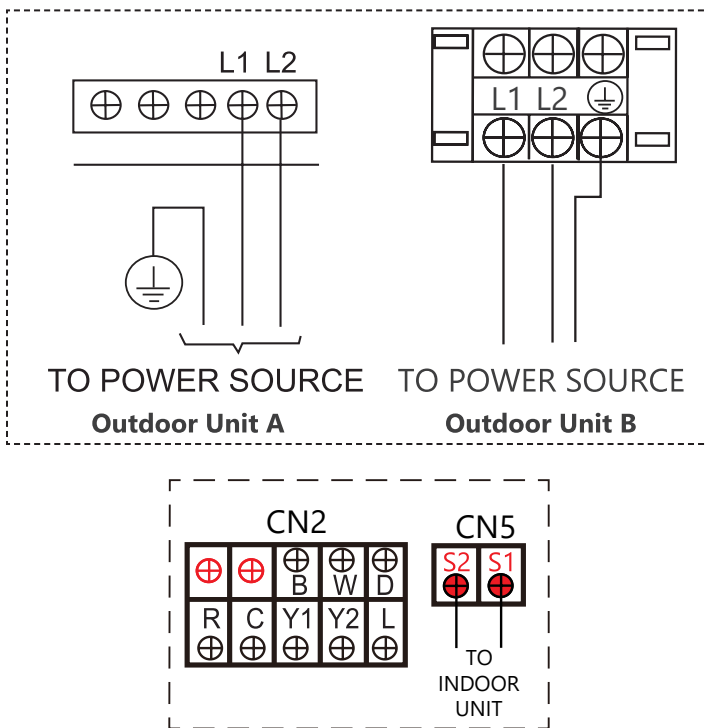

Fig. 5-3: High Voltage Power Connections
- All connections between the indoor and outdoor units must be made as shown in Fig. 5-3